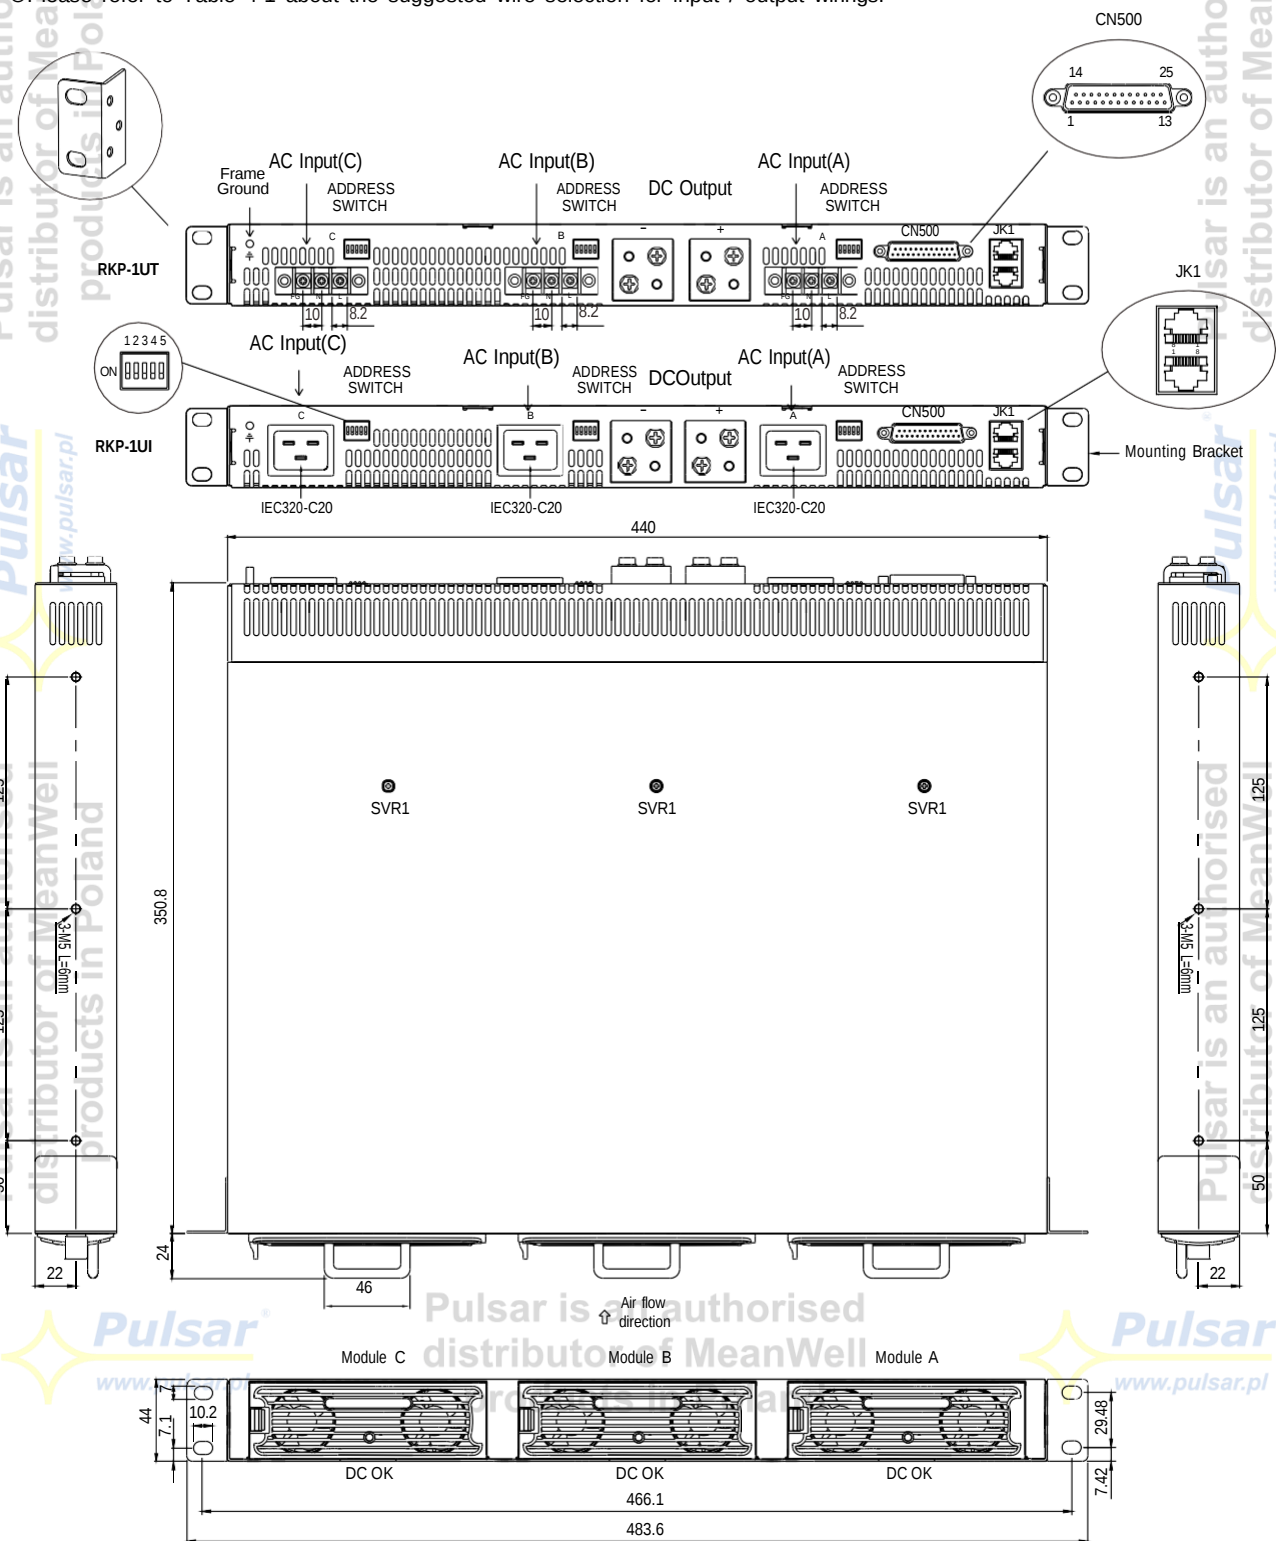

Figure 4-1 System assembly diagram of RCP series
- Insert 1~3 pieces of RCP-2000 (with the same output voltage and current) into the RKP-1U□(refer to Figure 4-1).
- Definition of module position: A is on the right, B is in the middle, and C is on the left (refer to Figure 4-1).